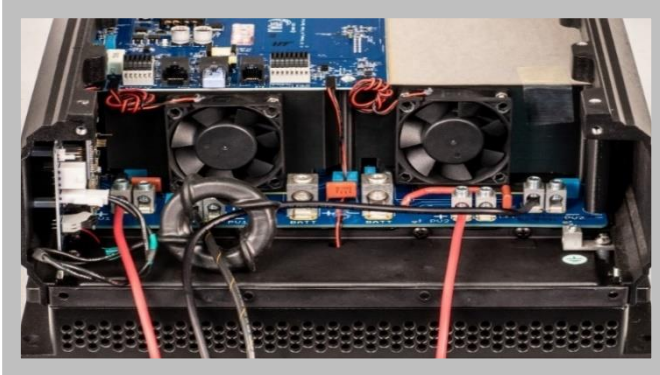

Figure 15
3. Pass both **PV-** wires through the RSS toroid, as shown in **Figure 15**.